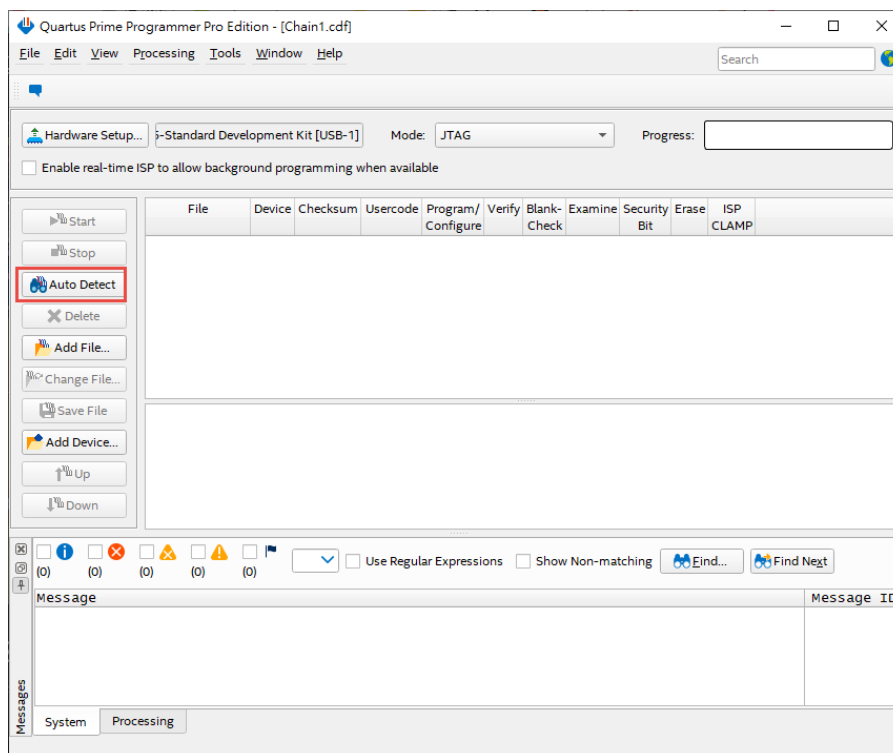

Figure 3-5 Detect FPGA device in JTAG mode
3. Open the Programmer and click “Auto Detect”, as shown in Figure 3-5